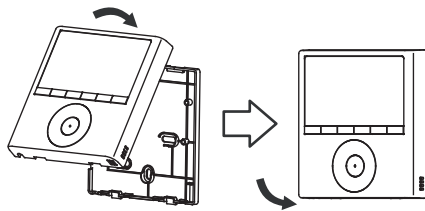

Fig. 3-9
- While adjusting and mounting the upper case, avoid clamping the wiring during installation. (Fig. 3-9)